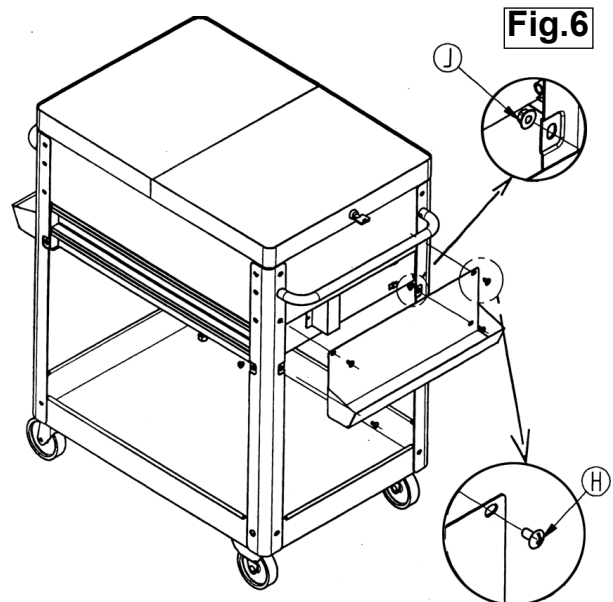

Fig.6
4.7 To attach the two side bins hold them up against the trolley just below the handles as shown in Fig. 6 and screw into place, then take two screws (H) and small nuts (J) and secure the bottom of the bins to the legs of the trolley.